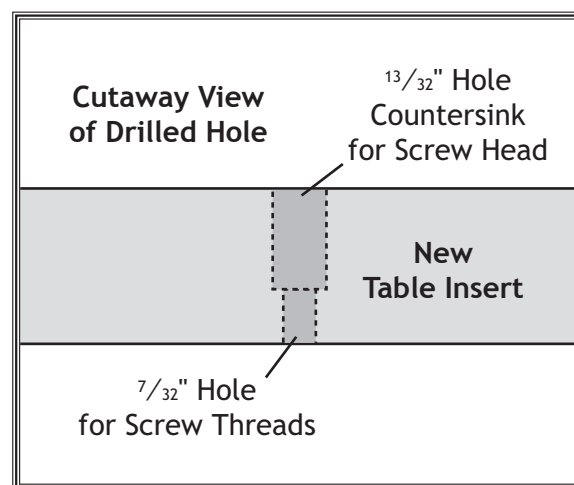

Figure 110. Countersinking mounting holes.
9. Countersink the holes you drilled in **Step 7** (see **Figure 110**), so the heads of the mounting screws can be recessed into the table insert when installed.